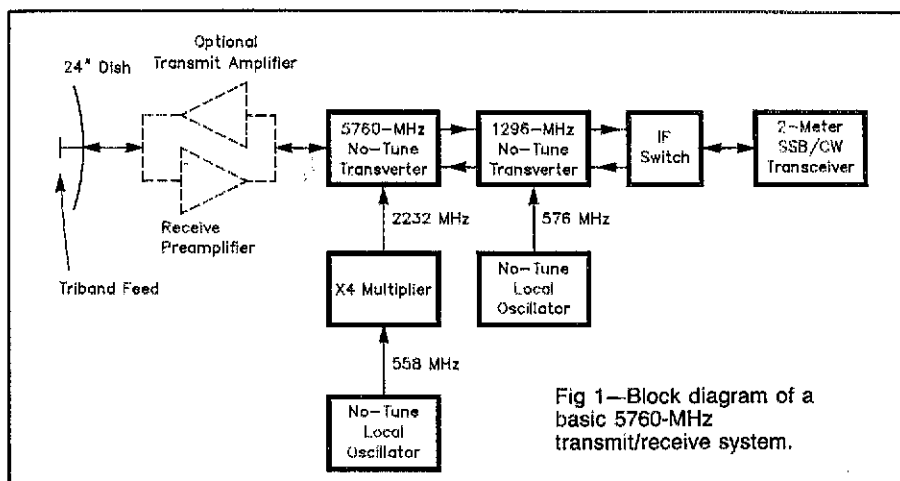

Fig 1—Block diagram of a basic 5760-MHz transmit/receive system.
The block diagram of a 5760-MHz transverter system using no-tune boards is shown in Fig 1. (The block diagram of the entry-level system using surplus components is not shown—it depends on the available components, and if you're capable of assembling a microwave station from surplus components, you don't need my block diagram!) Note that a 1296-MHz IF is needed with the no-tune 5760 transverter board. Three options for a 1296 MHz IF are (1) a 1296 MHz multimode transceiver (expensive but increasingly popular); (2) an existing 1296 transverter with a multimode IF transceiver; and (3) a no-tune 1296 board with a multimode 2-meter IF radio.